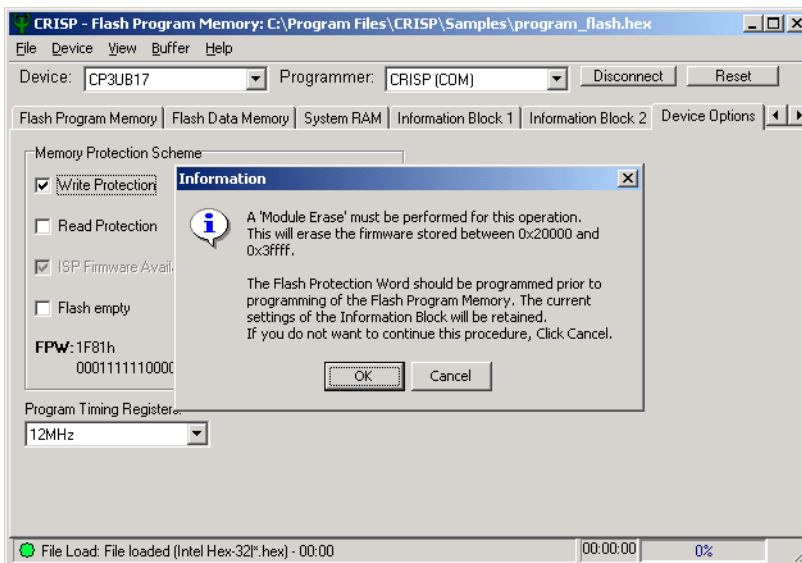

Figure 6-9. Protection Word Programming Warning
5. **Program FPW Warning.** After the Program FPW command has been selected, a further dialog box is opened to confirm the selection. It explains that changing the Protection Word settings also erases the memory from 02 0000h to 03 FFFFh. The dialog box also gives the user the option to continue or cancel the programming the operation, as shown in Figure 6-9. **Note:** The Protection Word settings do not take effect until **after** a device reset or power to the device has been cycled.